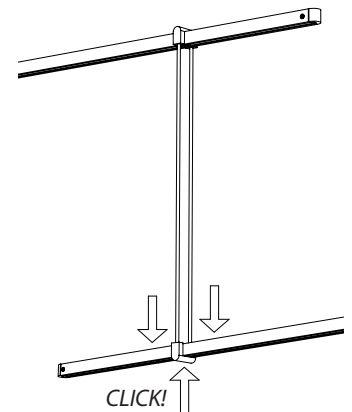

Fig. 7
4. Press down firmly on the top of the Power Bar, while pressing up on the bottom of the Power Bar Hanger, until the Power Bar clicks into place. (Fig. 7)